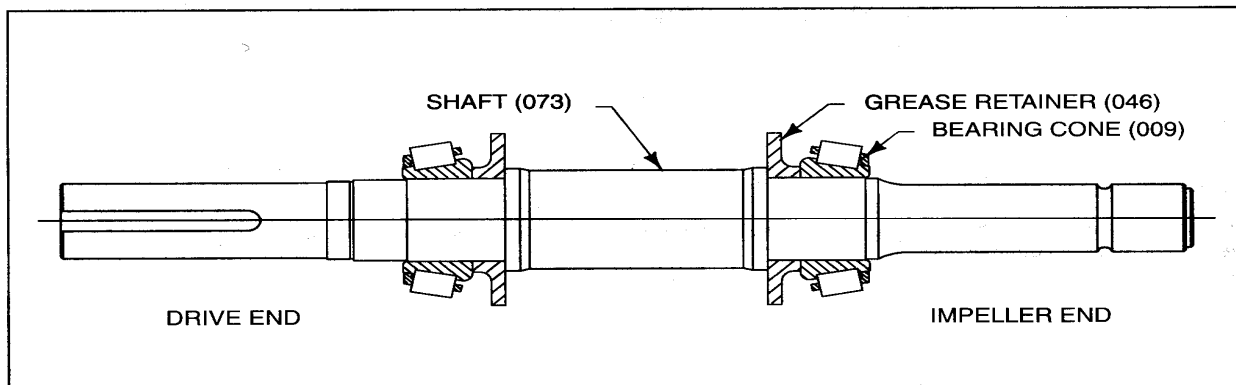

Figure 2-1 • Fitting Grease Retainers and Bearing Cones
This section contains information for pump designs designated as indicated above and as shown in *Figure 2-1*. The pump bearing configuration consists of opposing tapered roller bearings.
#### BEARING ASSEMBLY – FITTING GREASE RETAINERS AND BEARING CONES (Figure 2-1)
2. Work this grease by hand into the bearing on the shaft to fill space between cone, rollers, and roller cage. Spread remainder of grease between bearing and grease retainer shown in Figure 2-1.